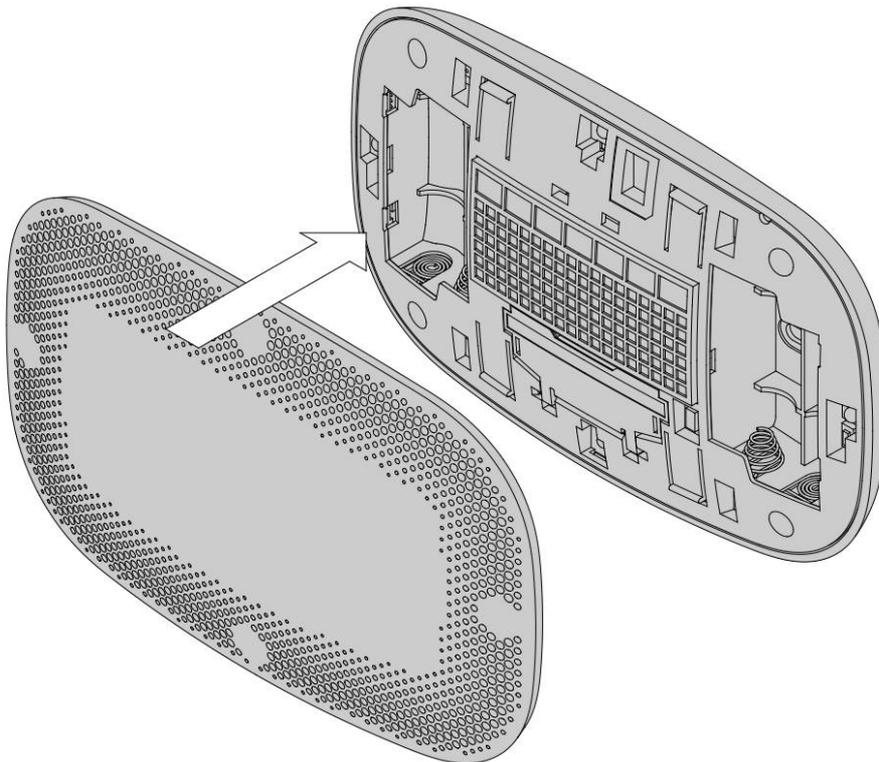

Figure 5. Install the front housing
7. Align the front housing of the thermostat with the back housing and push until the housing sections are locked together (Figure 5).